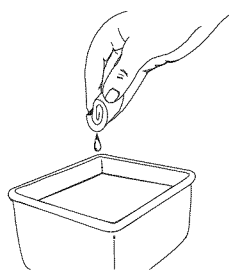

Fig. 20
3. Wash the filter in detergent and water (Fig. 20). Rinse the filter thoroughly and allow it to dry.